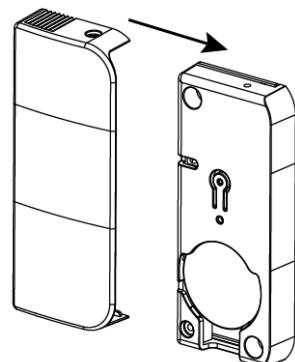

FIG. 4
Step 5. Re-place the cover back by sliding it rightward (FIG. 4).